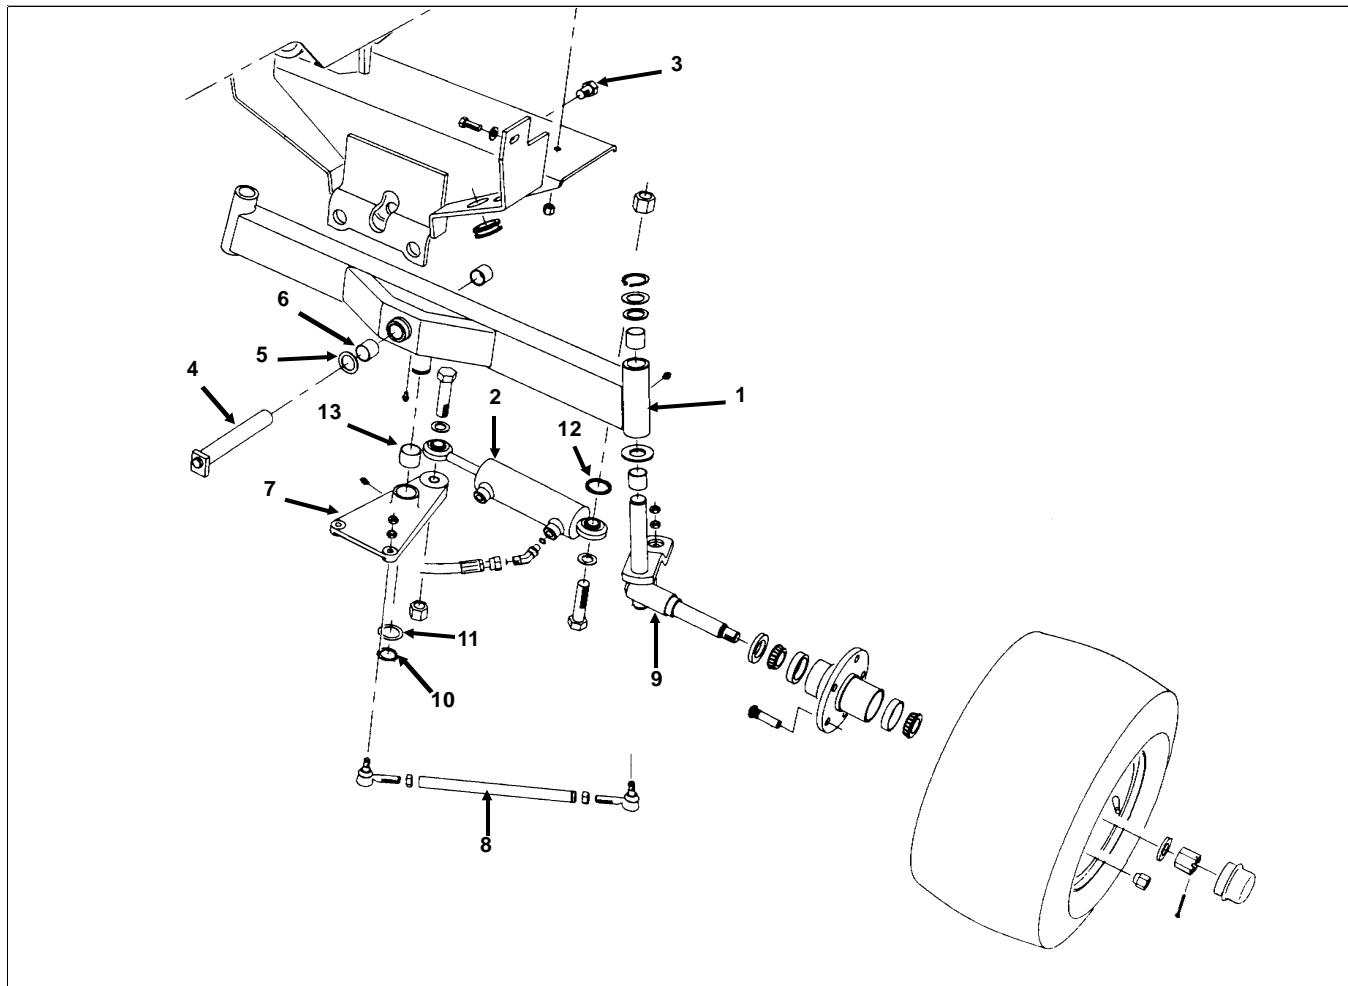

Figure 16
2. Remove the cap screw securing the end of the axle pin to the chassis (Fig. 16).
1. Remove the lock nut and cap screw securing the steering cylinder rod end to the steering pivot (Fig. 16).
2. Remove two (2) nuts to disconnect the tie rod end from the spindle arm. Inspect all tie rod end ball joints for wear or damage and replace as necessary.